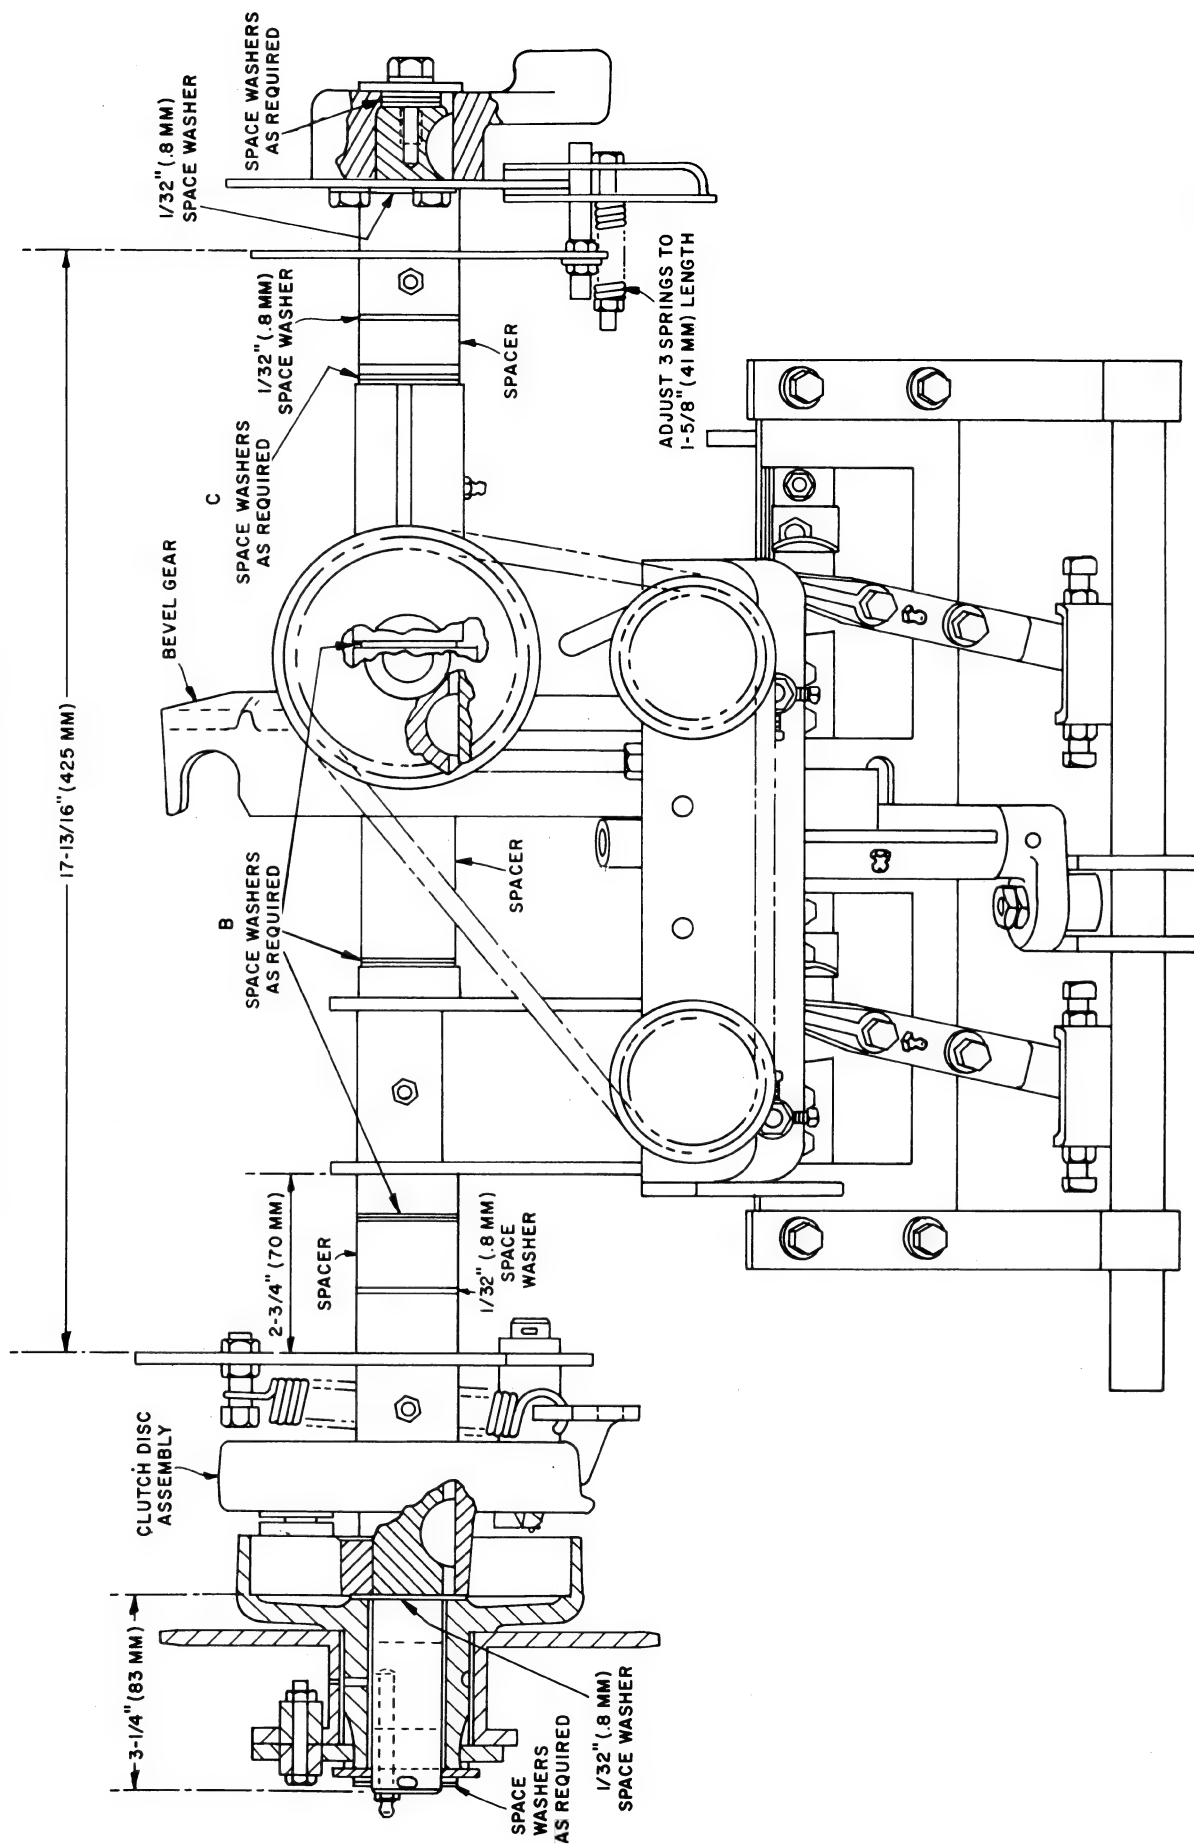

FIGURE 104
The three dimensions and clearances can only be obtained by trial and error and placing the correct number of spacer washers at B and C, Figures 104 and 105.
5. Install the woodruff key and slide the twine finger cam and the left bearing assembly on the shaft with the required washers so the distance between the left and right bearing assemblies is as shown in Figures 104 and 105. Secure the left bearing support to the bale chamber with two 1/2" bolts.
7. Replace the clutch assembly and install the cotter pin on the end of the twister shaft. Install the washer between the clutch disc as shown in Figures 104 and 105.